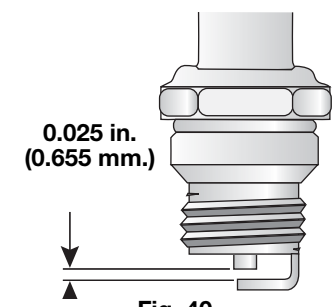

Fig. 40
3. Replace cracked, fouled or dirty spark plug. Set the air gap at 0.025 in. (0.655 mm.) using a feeler gauge (Fig. 40).